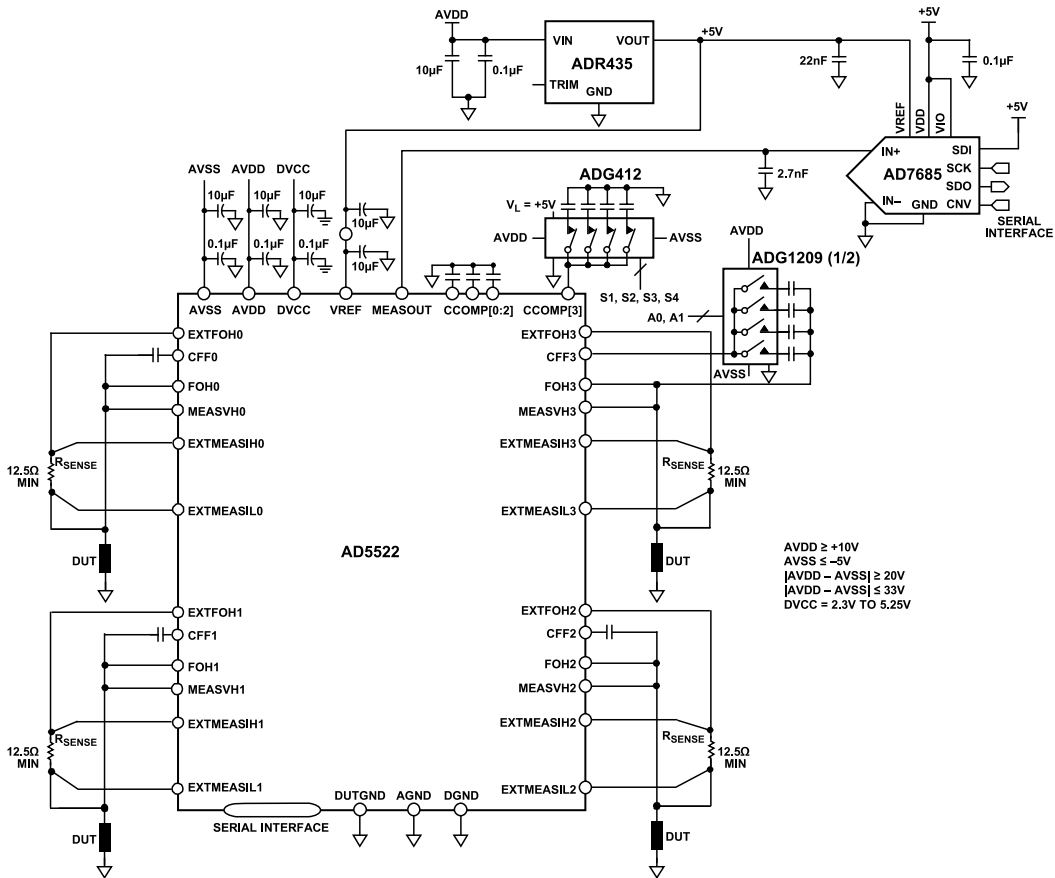

Figure 1. Parametric Measurement Unit and Supporting Components (Simplified Schematic)
- ▶ An ADC can be shared across multiple channels. In Figure 1, one AD7685 ADC is shared across the four PMU channels. In some applications, an ADC might be shared across many more channels, sometimes 8 or 16 PMU channels.
The circuit must be constructed on a multilayer PC board with a large area ground plane. Proper layout, grounding, and decoupling techniques must be used to achieve optimum performance (see Tutorial MT-031, Grounding Data Converters and Solving the Mystery of "AGND" and "DGND" and Tutorial MT-101, Decoupling Techniques). Note that Figure 1 is a simplified schematic and does not show all the necessary decoupling.